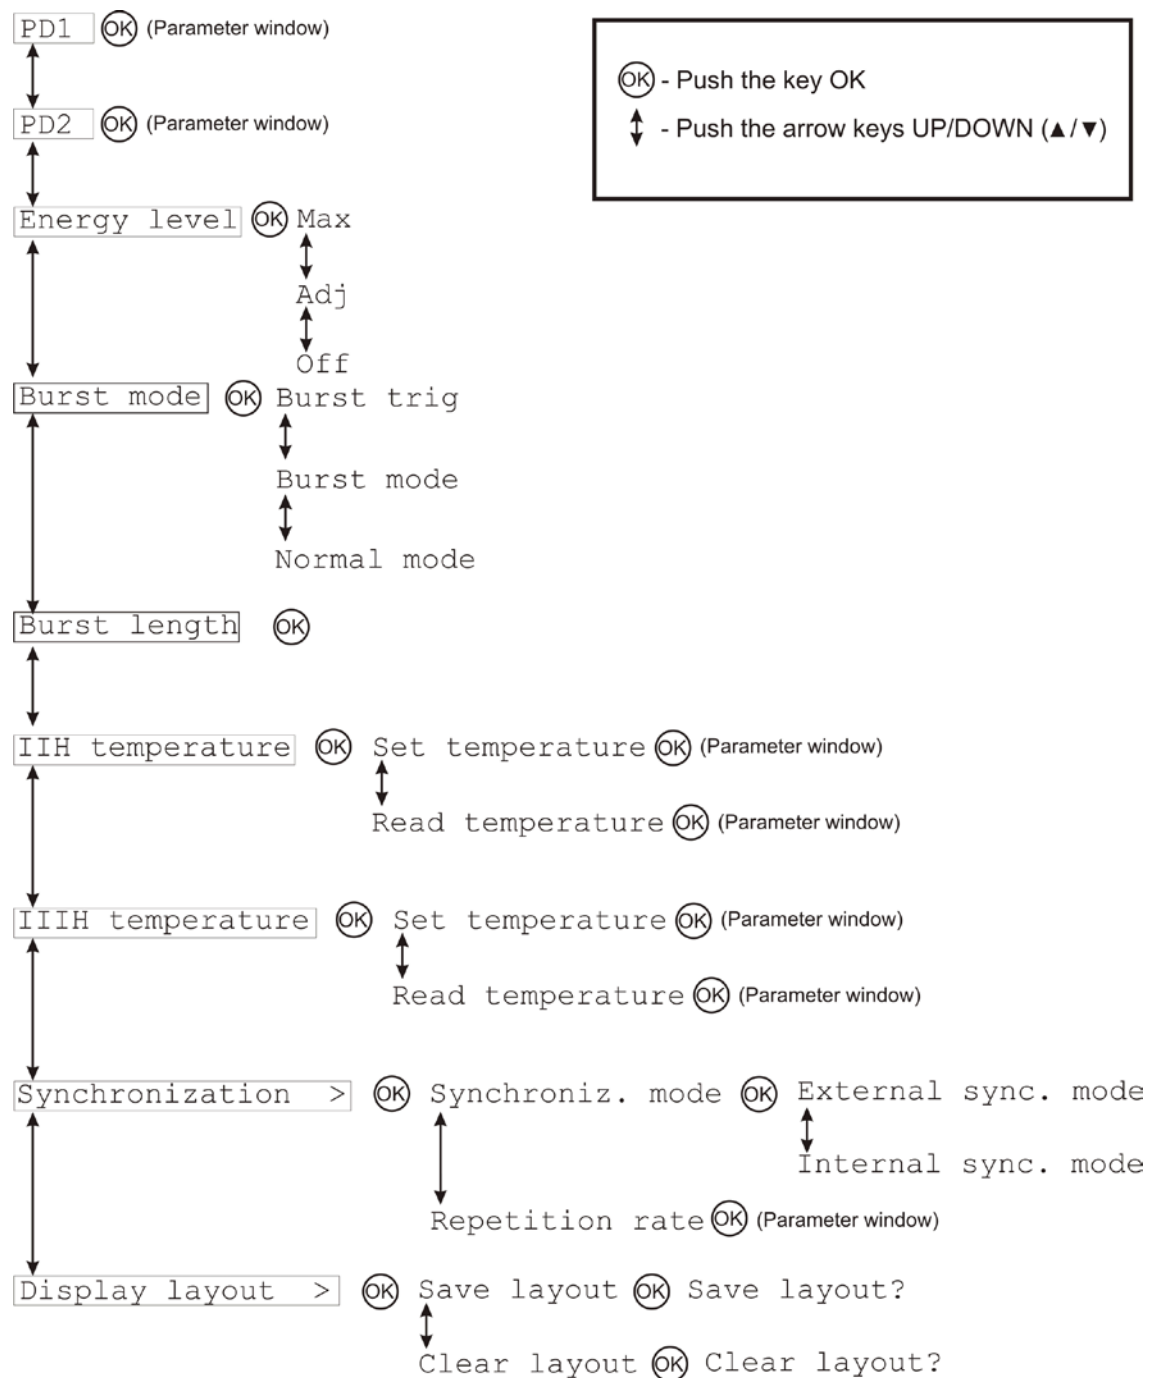

Figure 14 Menu tree
- buttons *UP* (▲) and *DOWN* (▼) when in menu mode move through menu options; in an input fields of the main window they increment/decrement numerical values (see also below). Menu options followed by *OK* sign in Figure 14 are activated by further pressing *OK* button; lowest level menu options not noted by this sign are activated by simply selecting them (like *E Max-E Adj-E OFF*).
The menu tree is shown on Figure 14 below.